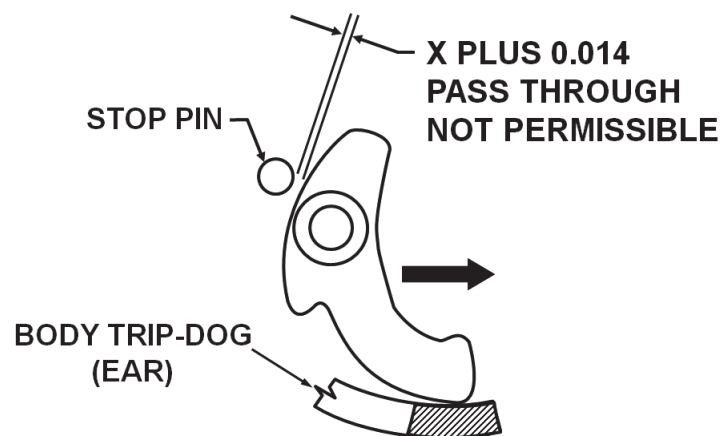

Figure 6-7. X Value Measurement
- e. Remove the wire to relax the flyweight. Add a 0.014" feeler gauge blade to the "X" value measured in step d (Figure 6-7). Ensure the flyweight tail remains against the body trip dog, as shown. Attempt to pass the "X" value plus "0.014" feeler gauges between the flyweight and stop pin. If feeler gauges pass, remove and discard worn cam assembly.